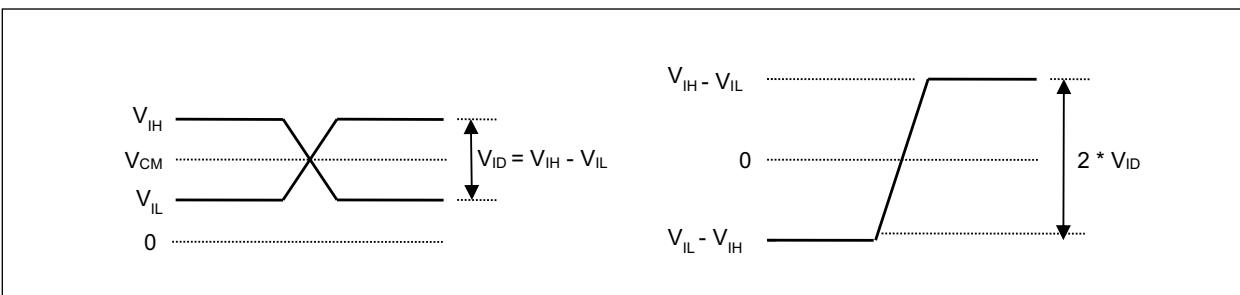

FIGURE 4-1: Differential Input Voltage Levels.
- 4:** Input differential voltage is calculated as $V_{ID} = V_{IH} - V_{IL}$ where V_{IH} and V_{IL} are input voltage high and low respectively. It should not be confused with $V_{ID} = 2 \times (V_{IH} - V_{IL})$ used in some data sheets. Please refer to Figure 4-1.